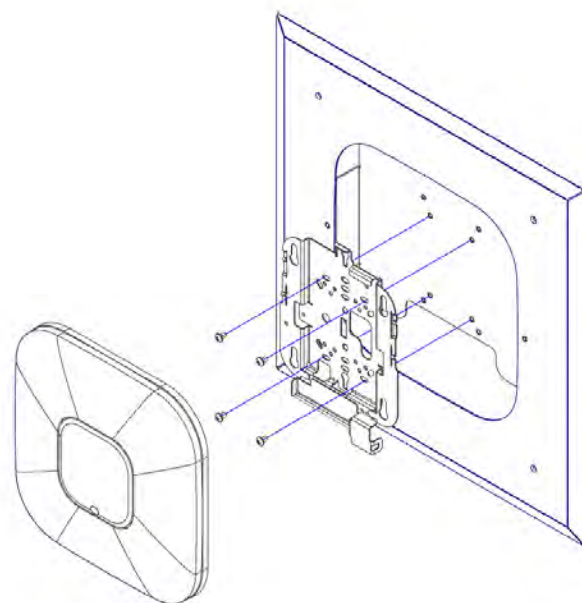

Figure 2 - Access Point and Bracket Attachment
Step 3 – Fasten Cisco's AIR-BRACKET and access point to the mounting plate attached to the provided trim (Figure 2).